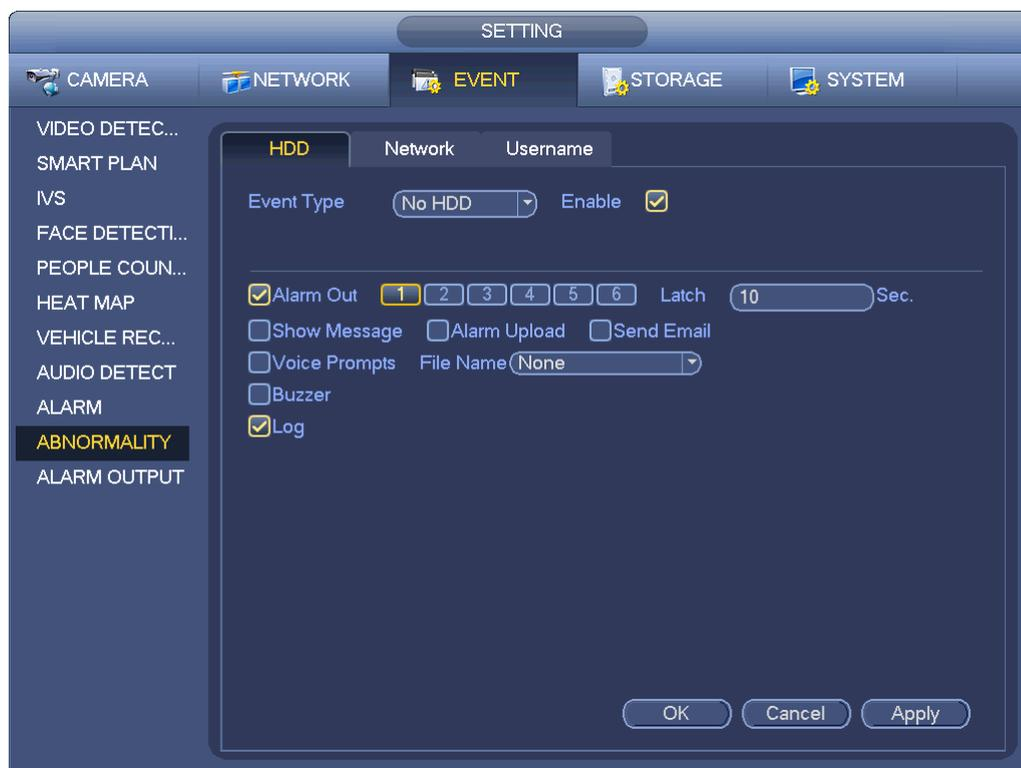

Figure 2-154
- ✧ Disk: Disk error, no disk, no space. See Figure 2-154.